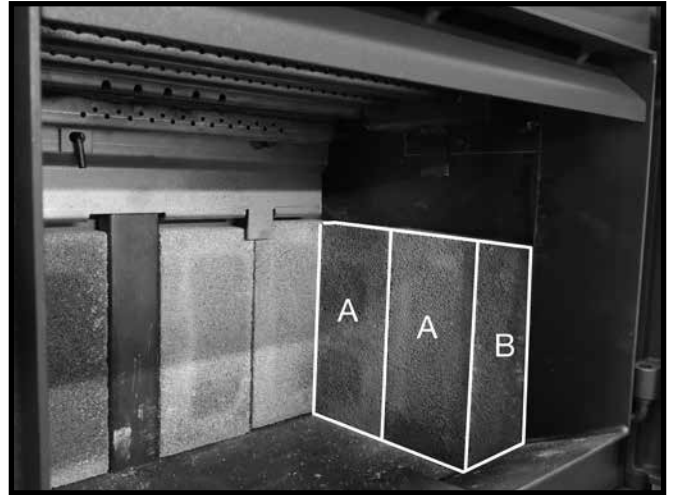

Figure 17: Lower side wall firebricks in place.
2. For the side walls: Stand an "A" firebrick against the side wall and up against the rear wall firebrick. Stand another "A" brick beside the first one followed by a narrow "B" firebrick (Figure 17).